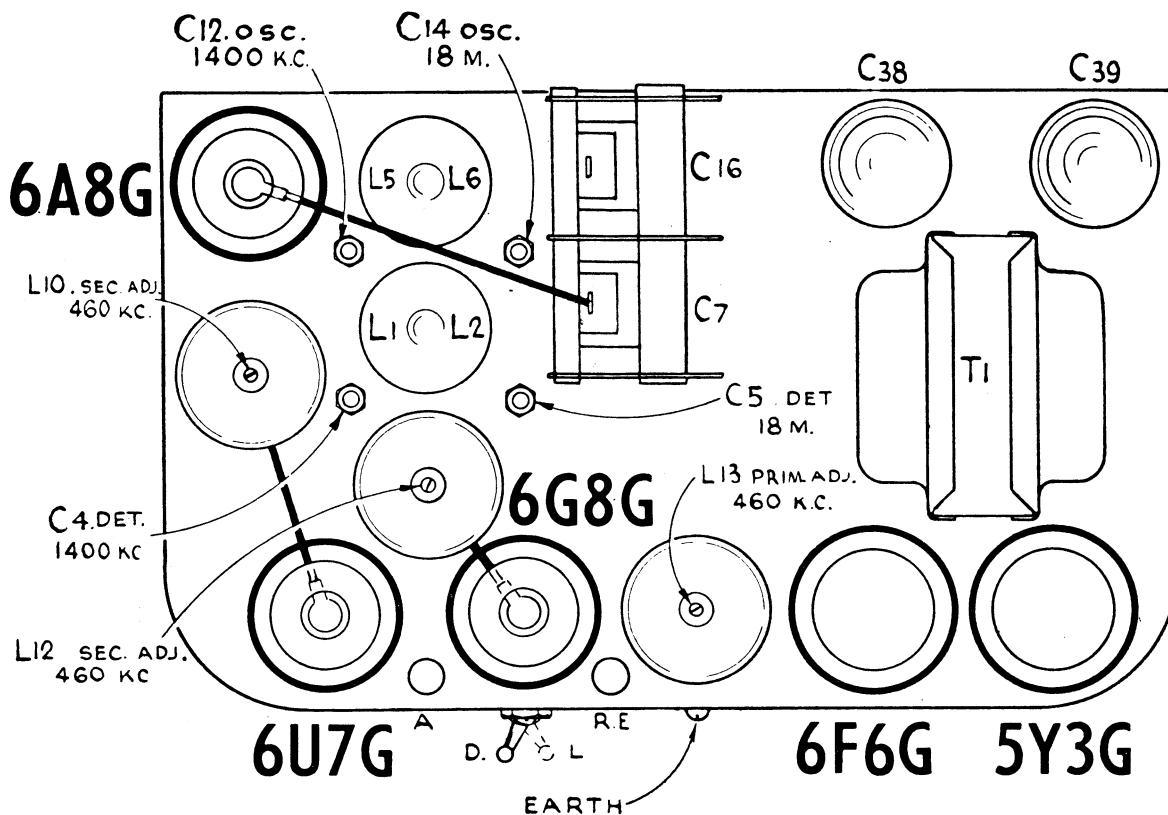

Fig. 1.—Lay-out Diagram (top view).
Perform alignment in the proper order starting with No. 1 and following all operations across, then No. 2, etc. Adjustment locations are shown in figs. 1 and 3. Keep the Volume Control set in the maximum clockwise position and the Sensitivity Switch at Distant (D), and regulate the output of the test instrument so that a minimum signal is introduced to the receiver to obtain an observable output indication. This will avoid A.V.C. action and overloading.